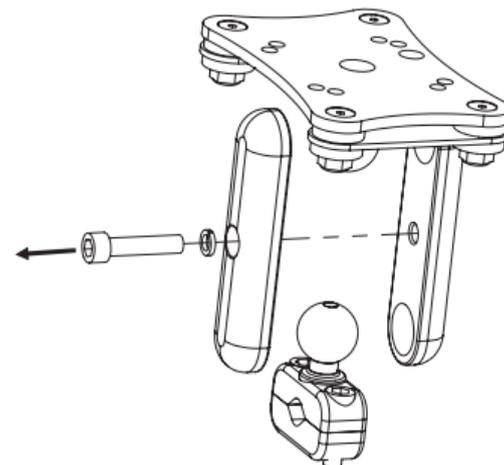

Figure 1
2. Using the 5/32" Hex Key, remove the 10-24 x 7/8" Screw and Lock Washer to disassemble the Mount as shown in **Figure 1**.